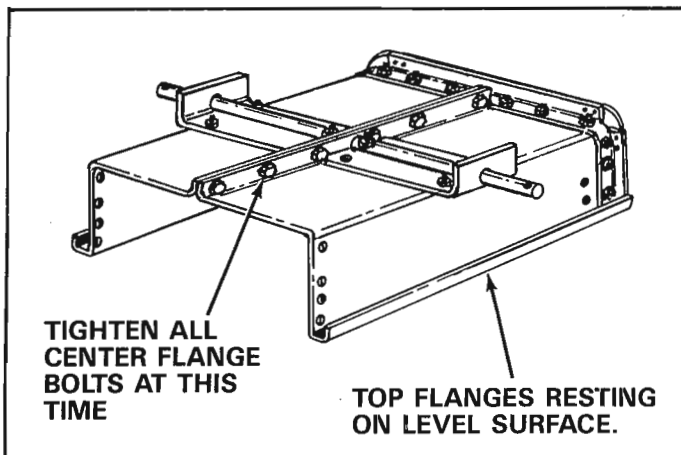

FIGURE 6
12. Place cart down, so that it rests on top flange, as shown in figure 6. Tighten bolts in center flanges, left finger tight in step 4.